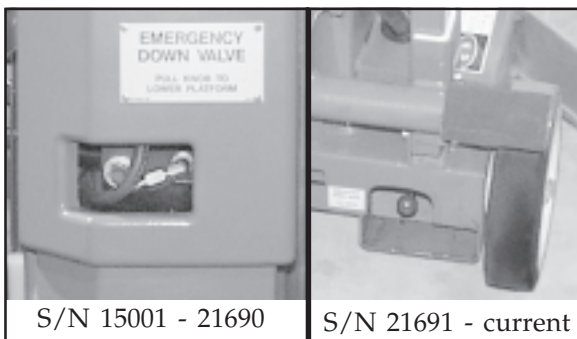

Figure 3: Emergency Lowering
This valve is located through a cutout in the power unit cover on the left side of the mast (Figure 3).
The Emergency Control Valve Knob is located at the rear of the machine. (Figure 3).
**NOTE: Optional auxiliary platform lowering circuit allows operator to lower platform when power source is interrupted. A warning light on chassis controls shines when batteries for auxiliary platform lowering circuit are low (Figure 3). Batteries for warning light are located inside chassis control box.**